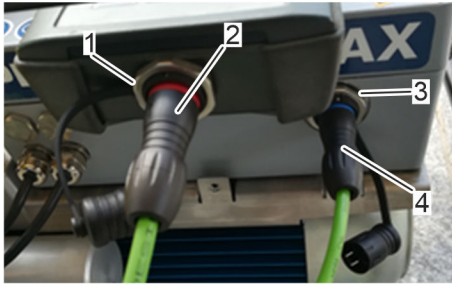

Fig. 40: Connecting the adapter cable
1. ➤ Connect the red bushing of the adapter cable (Fig. 40/2) to the control unit (BE) (Fig. 40/1).
2. ➤ Plug the blue plug of the adapter cable (Fig. 40/3) into the documentation and service interface of the hydraulic power pack (Fig. 40/4).
- ⇒ The control unit (BE) is supplied with electrical energy.
12.5 Putting the control unit (BE) into operation